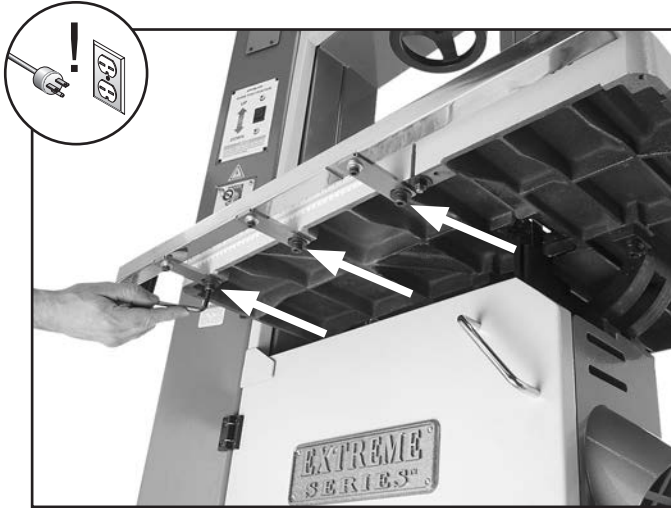

Figure 38. Fence rail cap screws.
- Loosen the cap screws that secure the fence rail to the table (see **Figure 38**).